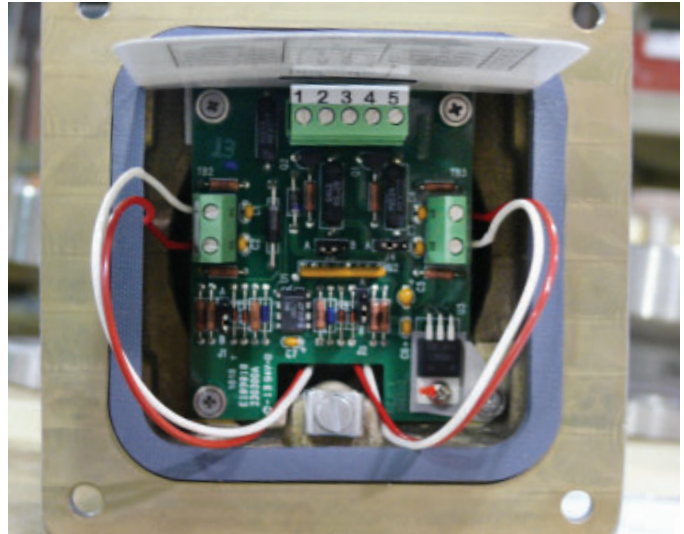

Figure 9-1 Circuit Board and Housing
3. Connect the instrument wiring, refer to Figures 9-1 and 9-2. Cable entry into the electrical enclosure is by two 3/4-14 NPT female threads.